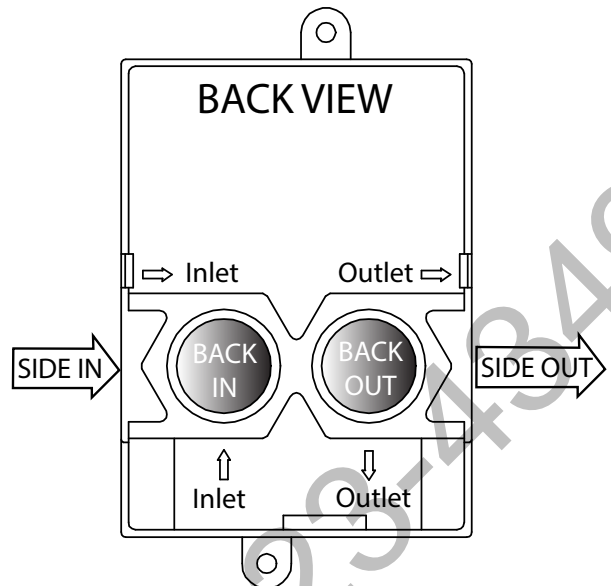
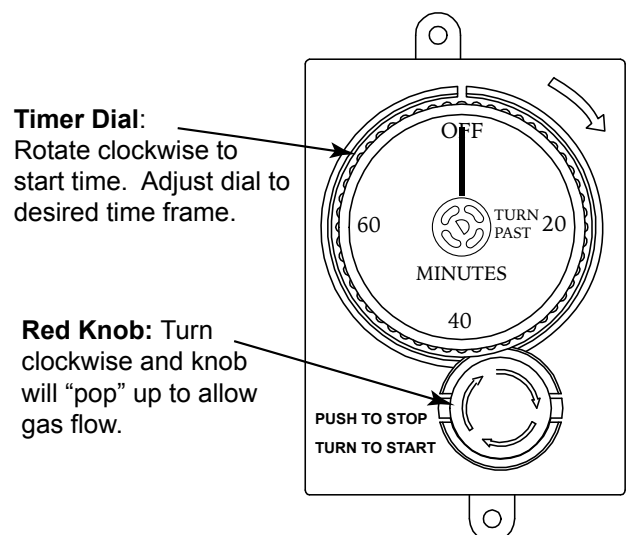
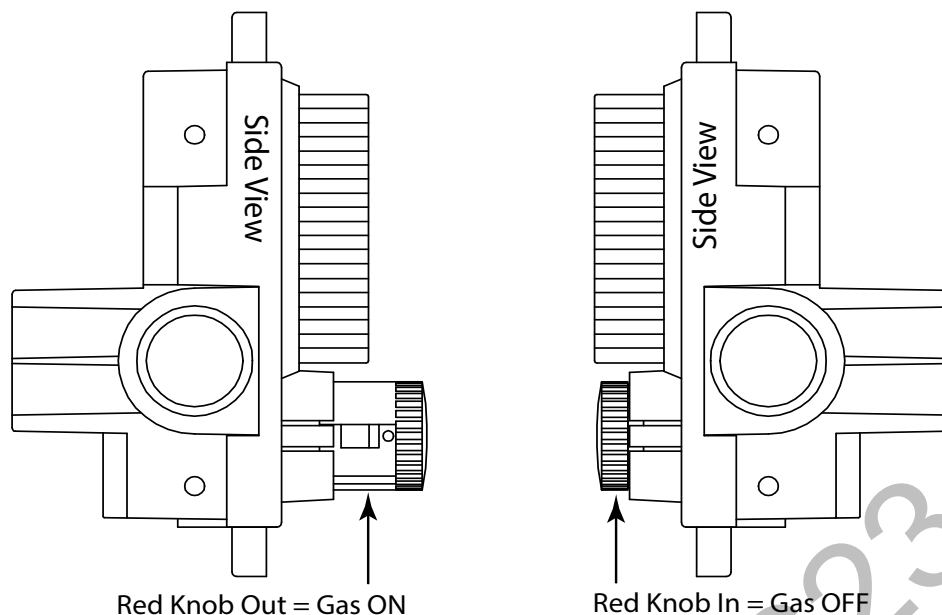

Fig. 2 Inlet and outlet connections.
Fig. 4 ESTOP1-0H operation.
Fig. 5 ESTOP1-0H Gas Timer red knob positions
The ESTOP1-0H is designed to be installed in an up-right position as shown in Fig 3, view "D" or Fig. 4. It has two (2) inlet and two (2) outlet gas connections. The diagrams below provide possible ways to plumb the timer (See Fig. 3). Two (2) ½" NPT plugs are provided with the timer. Plug the inlet and outlet connections not being used for the application. Connect gas supply to the inlet with the arrow ➡ pointing into the valve. Connect outlet side to the gas appliance (See Figs. 2 & 3 for details).
TO TURN OFF: Let timer expire or simply press red knob inward until it stops. The red knob will lock down with a "click" and stop gas flow. See Fig. 4 and Fig. 5 on following page.